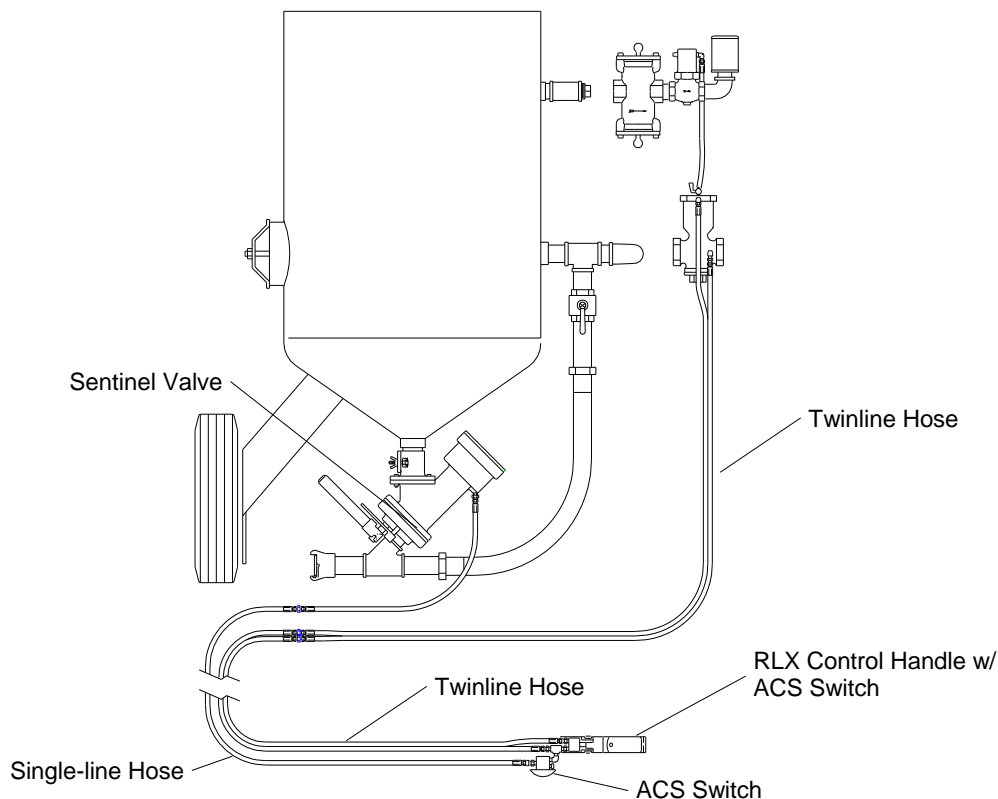

Figure 1
1.3.1 The Sentinel is a normally-closed, pneumatically-operated media control valve. The valve can be used with a pressure-release system, as shown in Figures 1 and 2, to stop the abrasive flow each time the blast machine is depressurized. It can also be used with a pressure-hold system, to stop the abrasive flow while the machine remains under pressure.
2.8.1 If a Clemco remote control with ACS control handle is used, connect the "single" control line to the fitting on the upper body as shown in Figure 1. Refer to the blast machine and remote control manuals for set-up and operation of the particular equipment.